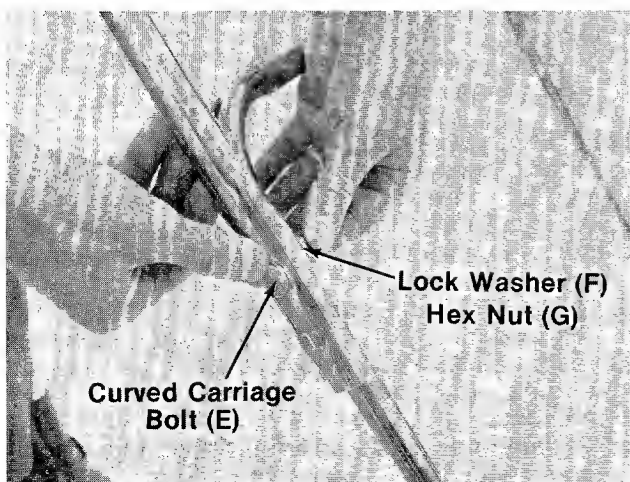
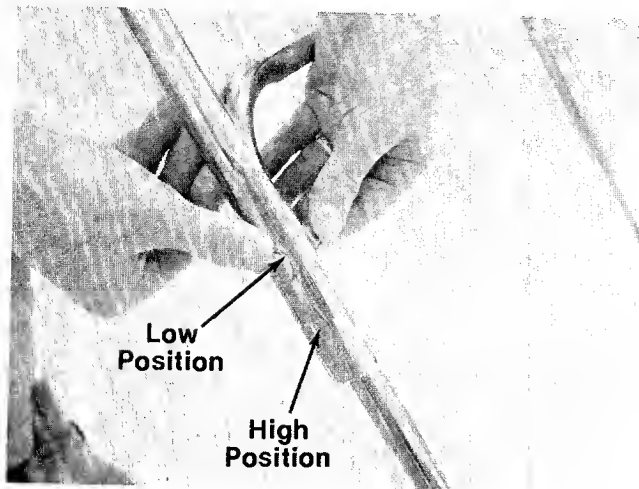

FIGURE 3.
FIGURE 13.
- ← 4. There are two height positions for the handle. Place upper handle in position over lower handle, selecting hole for either high or low position. Refer to figure 13. Secure upper handle with two curved carriage bolts (E), lock washers (F) and hex nuts (G). See figure 3.
The upper handle can be adjusted to a high or low position. The adjustment is made by removing the hex nuts, lock washers and curved head bolts and reassembling in the other position. A 1/2" wrench is required. See figure 13.